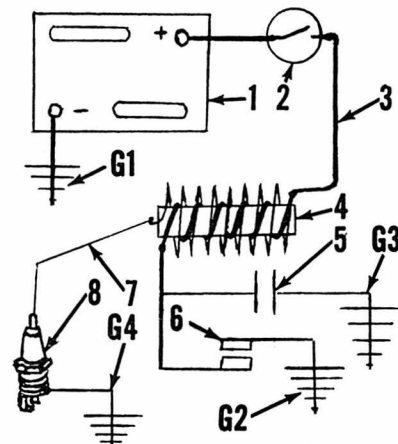

Fig. 1-18—Diagram of a typical battery ignition system. Refer to text for principles of operation.
In the battery system, the primary circuit consists of the battery, ignition switch, primary windings, contact points, condenser, and the necessary connecting wiring as shown at (3—Fig. 1-18). When the ignition switch (2) and contact points (6) are closed, the primary circuit (3), primary windings of coil (4) and the closed contact points (6), the ground connections (G1 at battery and G2 at points) plus the engine casting or frame, complete the circuit. As the current flows, a magnetic field is built up in the soft iron laminations of coil (4), which is surrounded by the primary and
igniting the compressed fuel-air mixture in the cylinder. Before an electric charge can move across an air gap, the intervening air must be charged with electricity, or ionized. The spark plug gap becomes more easily ionized if the spark plug ground (G4—Fig. 1-18) is of negative polarity. If the spark plug is properly gapped and the system is not shorted, not more than 7,000 volts may be required to initiate a spark. Higher voltage is required as the spark plug warms up, or if compression pressures or the distance of the air gap is increased. Compression pressures are highest at full throttle and relatively slow engine speeds, therefore, high voltage requirements or a lack of available secondary voltage most often shows up as a miss during maximum acceleration from a slow engine speed. There are many different types and sizes of spark plugs which are designed for a number of specific requirements.